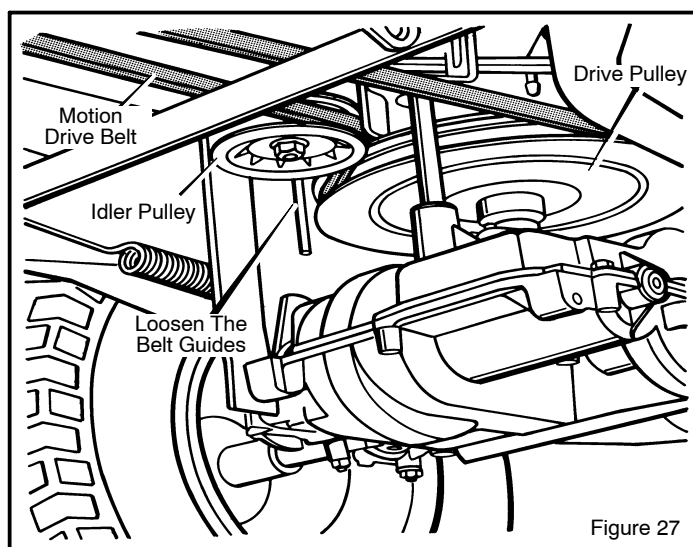
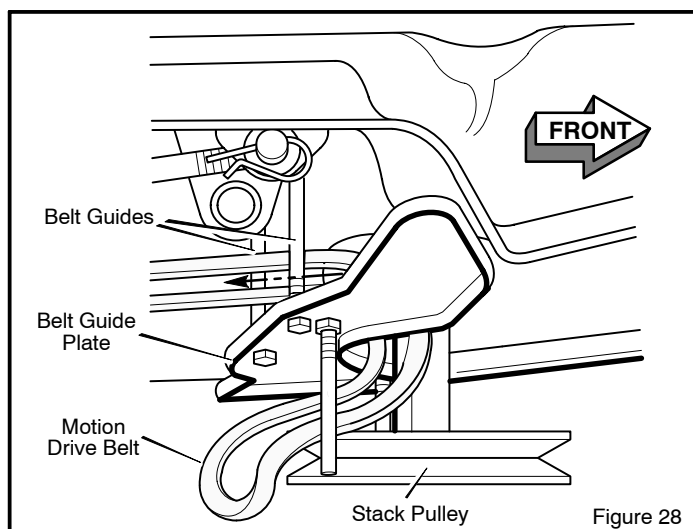

Figure 27
Figure 28
3. Remove the **idler pulley** (Figure 27).
6. To remove the **motion drive belt** from the **stack pulley**, pull the front end of the belt under the **stack pulley** and then back between the stack pulley and the **belt guide plate** (Figure 28).
1. Slide the **motion drive belt** between the **stack pulley** and the **belt guide plate** (Figure 28). Install the **motion drive belt** on the top pulley of the **stack pulley**. Make sure the “V” side of the belt is against the pulley.
3. Install the end of the **motion drive belt** around the **drive pulley** (Figure 27).
6. Make sure the **motion drive belt** is inside all the **belt guides** (Figure 27 and Figure 28).